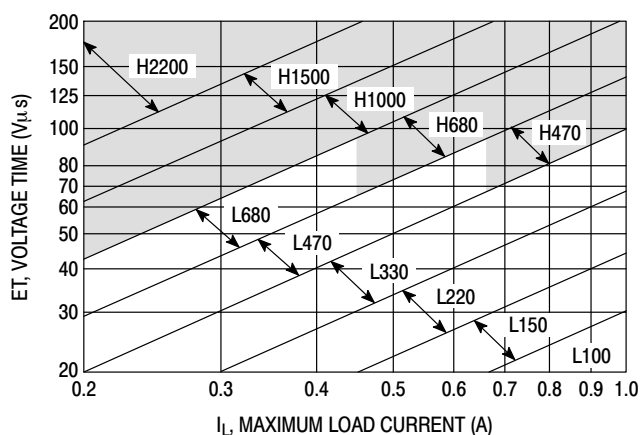

Figure 21. LM2575-Adj
4. Inductor Selection (L1) A. Use the following formula to calculate the inductor Volt x microsecond [V x μs] constant: $E \times T = (V_{in} - V_{out}) \times \frac{V_{out}}{V_{on}} \times \frac{10^6}{F[Hz]} [V \times \mu s]$ B. Match the calculated E x T value with the corresponding number on the vertical axis of the Inductor Value Selection Guide shown in Figure 21. This E x T constant is a measure of the energy handling capability of an inductor and is dependent upon the type of core, the core area, the number of turns, and the duty cycle. C. Next step is to identify the inductance region intersected by the E x T value and the maximum load current value on the horizontal axis shown in Figure 21. D. From the inductor code, identify the inductor value. Then select an appropriate inductor from the Table 1 or Table 2. The inductor chosen must be rated for a switching frequency of 52 kHz and for a current rating of $1.15 \times I_{load}$. The inductor current rating can also be determined by calculating the inductor peak current: $I_{p(max)} = I_{Load(max)} + \frac{(V_{in} - V_{out})t_{on}}{2L}$ where t_{on} is the "on" time of the power switch and $t_{on} = \frac{V_{out}}{V_{in}} \times \frac{1}{f_{osc}}$ For additional information about the inductor, see the inductor section in the "External Components" section of this data sheet.	4. Inductor Selection (L1) A. Calculate E x T [V x μs] constant: $E \times T = (12 - 8.0) \times \frac{8.0}{12} \times \frac{1000}{52} = 51 [V \times \mu s]$ B. E x T = 51 [V x μs] C. $I_{Load(max)} = 1.0$ A Inductance Region = L220 D. Proper inductor value = 220 μH Choose the inductor from the Table 1 or Table 2.